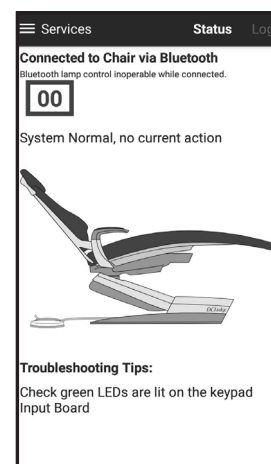

Fig. 3
**4 View Status:** Once connected, you will be placed into the Status Section of the app (Fig. 3) where you can view the codes that are currently being displayed on the Control Board of the chair along with the definition of the code. A graphical display will also indicate any current actions you are making in real time. Scroll through the troubleshooting section at the bottom of the screen if the current conditions require a corrective action.